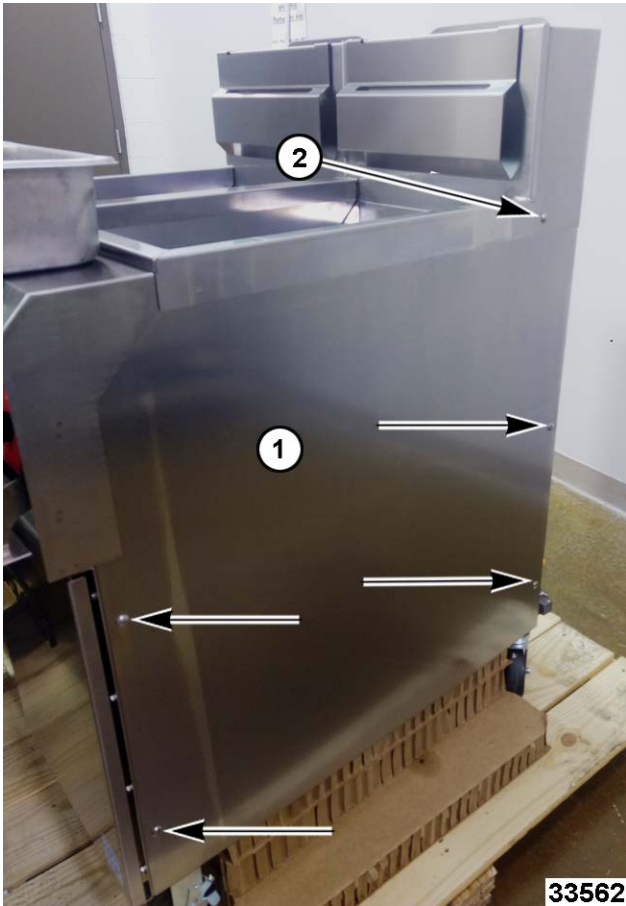

Fig. 8
1. Remove mounting screws (1, Fig. 8).
2. Loosen flue screw (2, Fig. 8) while carefully holding side panel.
4. Install screws (1, Fig. 8).
5. Retighten flue screw (2, Fig. 8).